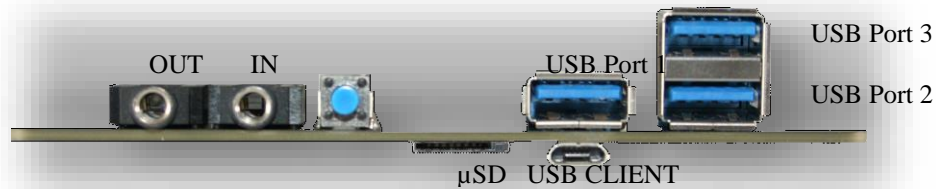

Figure 3. X15 Front Edge View
- Port numbering shown in Figure 3.